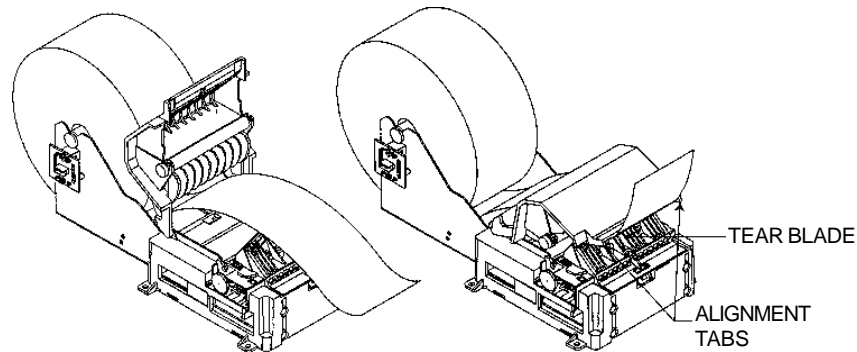

FIGURE 17 - PRINTER - LOADING PAPER
5. Tear off the end of the new roll so that the edge is loose and place the new roll into the spindle bracket with a few inches of loose paper at the bottom of the roll. See Figure 17.